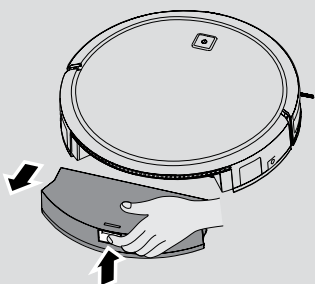

Fig. 17
1. Press the release button and pull it out. **[Fig. 17]**
2. Press the dust container release button and remove the dust container from the Robot. **[Fig. 17]**